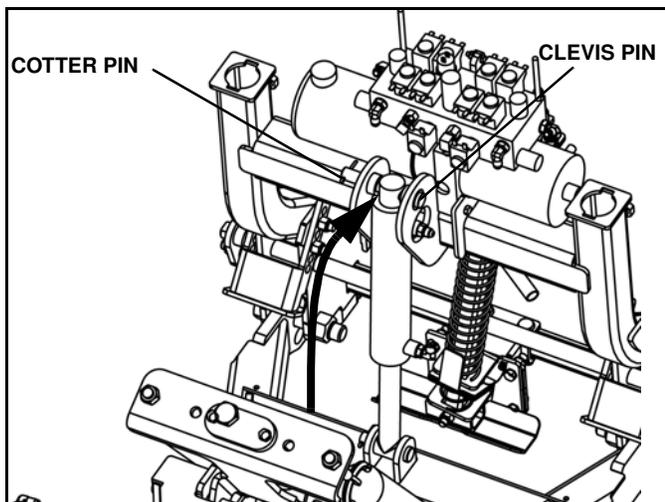

Figure 1-15
11. Flip lift cylinder up and secure to the light bar frame with a 3/4" clevis pin and cotter pin. (See Figure 1-15).